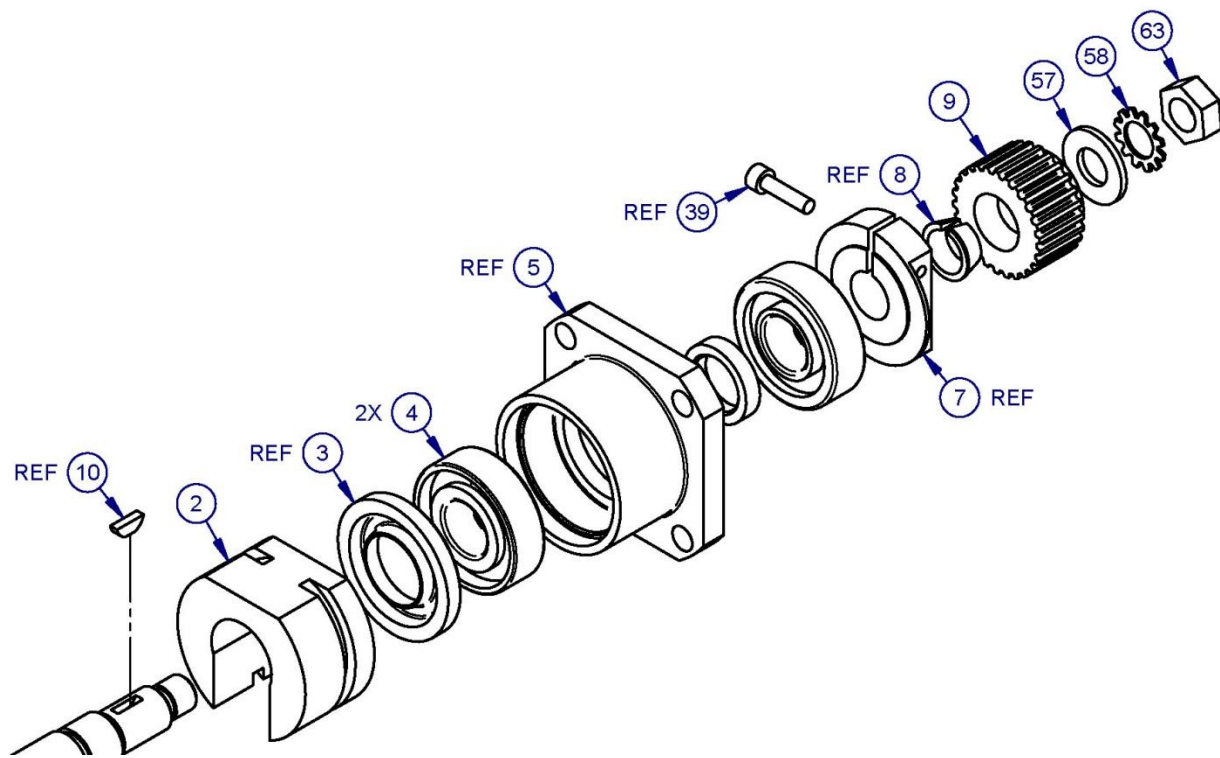

Figure 6.5c
5. Remove the four SHCS that secure the bearing cap found opposite to where the cushion seats, also shown in Figure 6.5c.
7. Remove the bearing housing from the right side of the X-axis casting, refer Figure 6.5c disassemble the seal, bearings and the inner spacer.